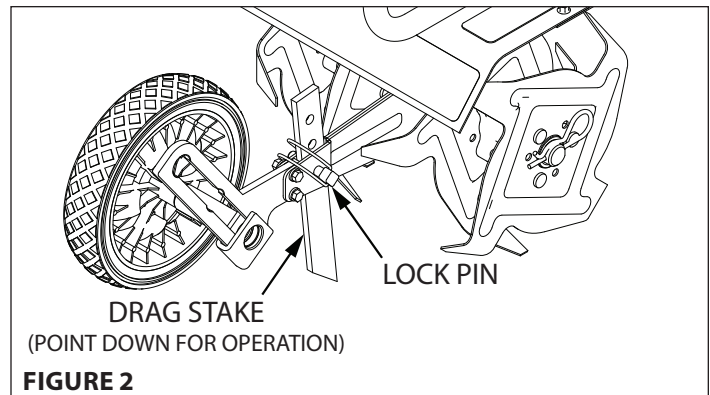

FIGURE 2
- The drag stake is shipped with point facing upwards. Before using, remove lock pin and turn the drag stake around so the point is directed in the downward position facing towards the tines. Re-insert lock pin. **SEE FIGURE 2**